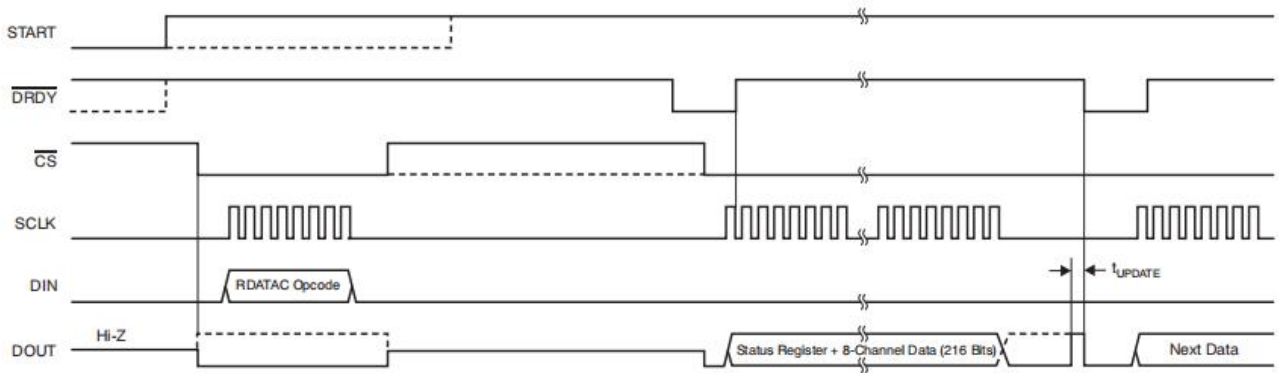

Figure 9.5.2 Usage of RDATAAC command
(6) STOP: Stop Conversion
The STOP command halts the conversion. Pull the START pin low to control the conversion via the command. When the STOP command is issued, the ongoing conversion completes and further conversions are stopped. If the conversion has already been stopped, this command is invalid. This command has no SCLK rate limit and can be issued at any time. (7) RDATA: Continuous Read Data The RDATA command initiates the output of conversion data on each DRDY_ without the need for subsequent read data commands. This mode places the conversion data in the output register, where it can be directly shifted out. The continuous read data mode is the default mode for the chip, which defaults to this mode upon power-up. The RDATA mode is canceled by a stop read data continuously command. If the chip is in RDATA mode, a SDATA command must first be issued before any other commands can be sent to the chip. This command has no SCLK rate limit; however, subsequent data read SCLK or SDATA commands should wait for at least 4 tCLK cycles before completion (see the section on sending multi-byte commands). The timing for RDATA is shown in Figure 9.5.2, with a prohibited area of 4 tCLK cycles around the DRDY_ pulse where this command cannot be issued. To read data from the chip after issuing the RDATA command, ensure that the START pin is high or issue a START command.